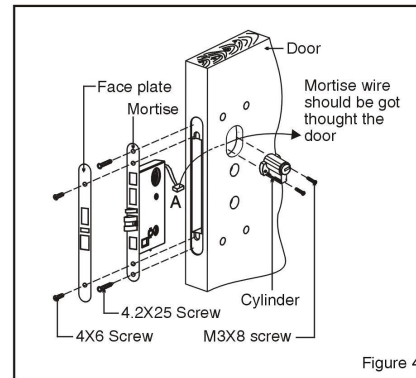

Figure 4
(1). As figure 4 shown, pull the lead-wire B through the hole on the door and fix the mortise with 2 pieces of screw M4.2X25. Then install cylinder into the mortise by two screws. Cover the face plate on it and fasten it with 2 pieces of screw M4X6.